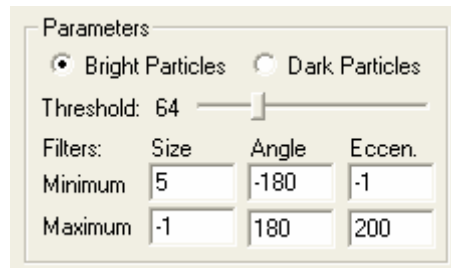

Figure 5:
15. The Particle Tracking control panel contains several default parameters that can be configured based on specific analysis requirements. Set the Minimum Size field to 5, the Maximum Angle field to 180, and the Maximum Eccen. field to 200 as shown below in Figure 5.